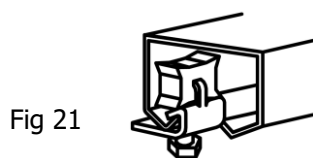

Fig 21
- Mount the bumper stops inside the track (Fig 21)